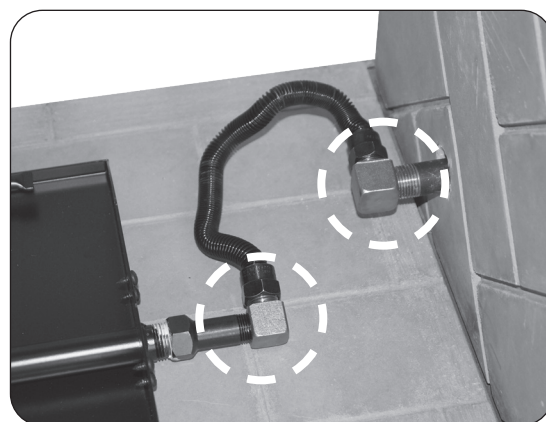

Fig. 10-3 Perform leak test
6. **LEAKTEST:** Follow the appropriate LIGHTING INSTRUCTIONS for your model to ignite the burner. Test at all connections for leaks using the appropriate soapy water solution. See Fig. 10-3. If bubbles appear, a leak is present. Turn off the gas and tighten at all connections. Repeat until no leaks are present. If a leak persists, turn off the gas supply and contact the local gas company or dealer. **NEVER USE A FLAME TO CHECK FOR LEAKS.**